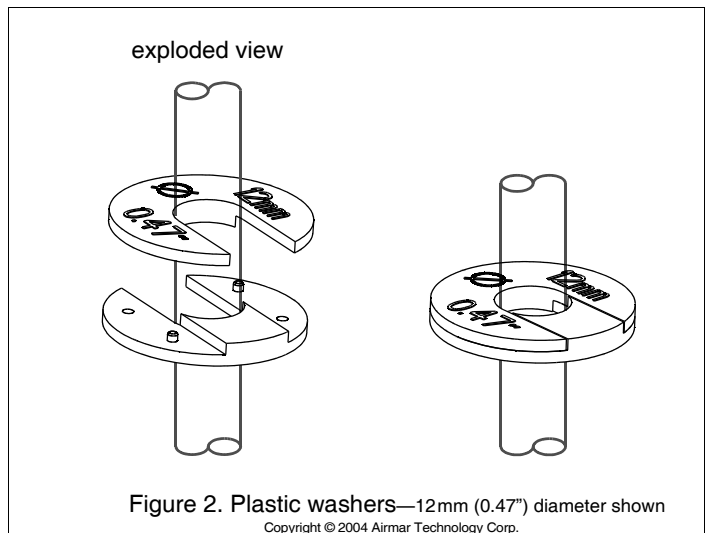

Figure 2. Plastic washers—12 mm (0.47") diameter shown
- Put two of the plastic-washer pieces around the cable and press the halves together to form a closed ring (see Figure 2).